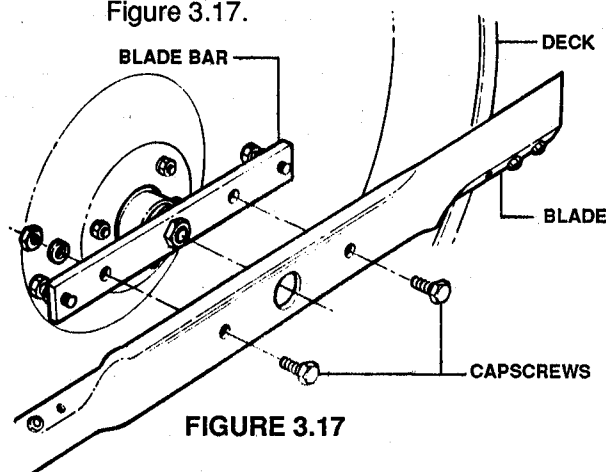

FIGURE 3.17
5. Remove blade from blade bar. See Figure 3.17.